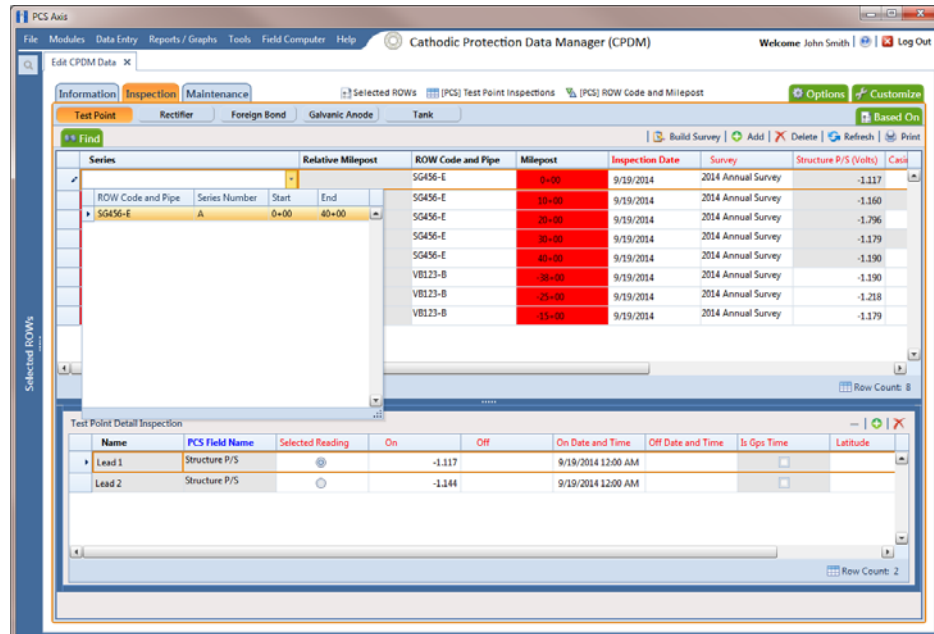

Figure 3-71. Pipeline Series
- 12 Open the data entry grid with the mileposts you want to apply pipeline *Series*, such as the *Test Point Inspection* data grid shown in the next example (Figure 3-71, page 119).